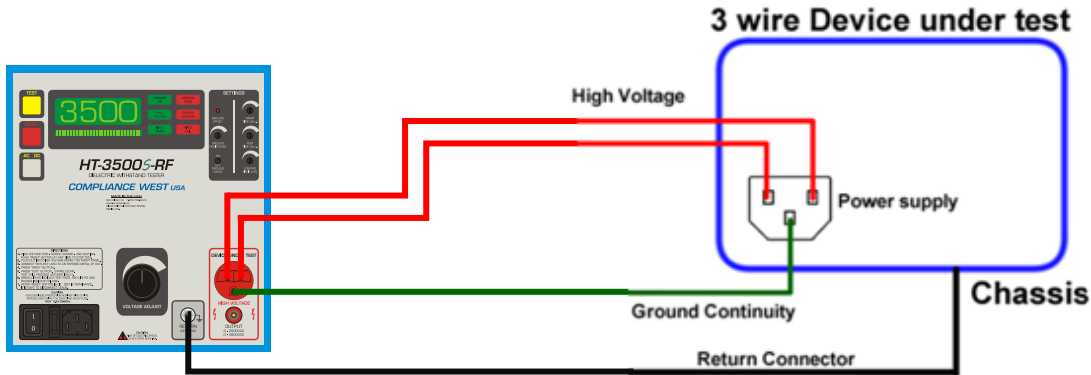

Figure 4. Testing a Three Wire Power Cord Device.
4. Plug the power supply cord of the device being tested into the **Device** receptacle on the panel of the HT-3500S-RF unit. See Figure 4 for detailed connections.